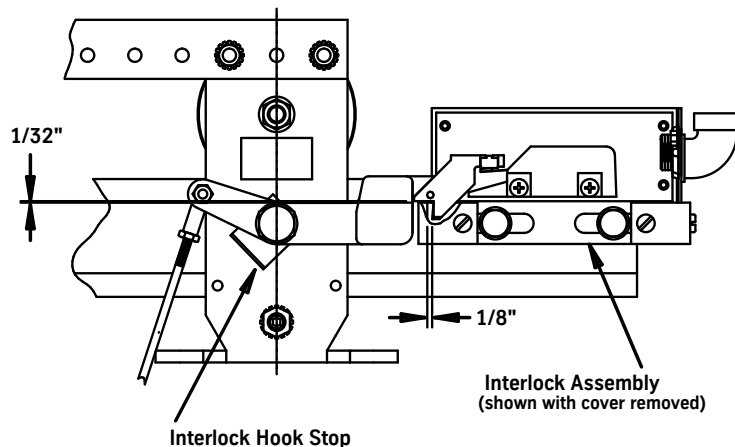

Figure 15 - Adjust the Interlock Box
4. Adjust the interlock box so there is an equal distance (about 1/8"), when the doors are closed, between the interlock hook and both sides of the locking tab on the box. See Figure 15.
4. Adjust the interlock box so that there is an equal distance (about 1/8") when the doors are closed between the interlock hook and both sides of the locking tab on the box. See Figure 15 on page 19.